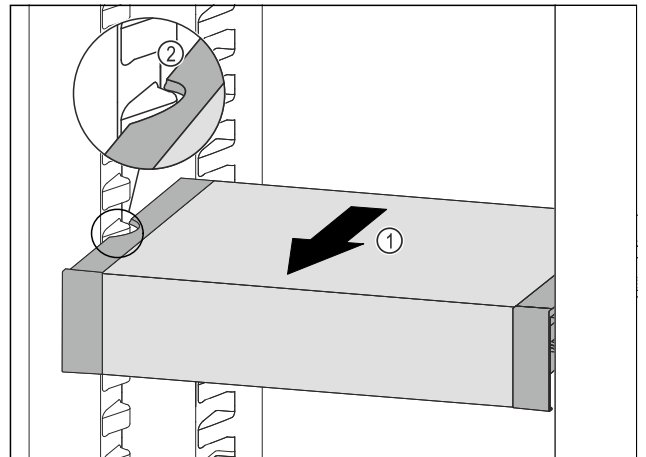

Fig. 83
- ▶ Pull VarioSafe forward Fig. 83 (1) until the recesses in the side of the VarioSafe are at the level of the support rib in the refrigerator compartment. Fig. 83 (2)